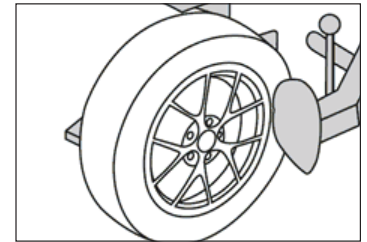

Figure 1
1. Loosen the tire: fix both sides of the tire, press and make it bulge (Figure 1).